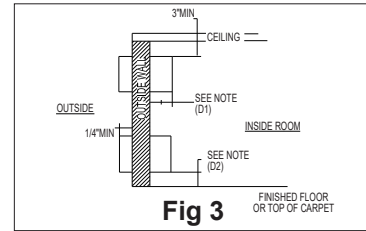

Fig 3
- There should be sufficient space margins around the unit to facilitate maintenance and repairs (refer to Figs 3 and 4).